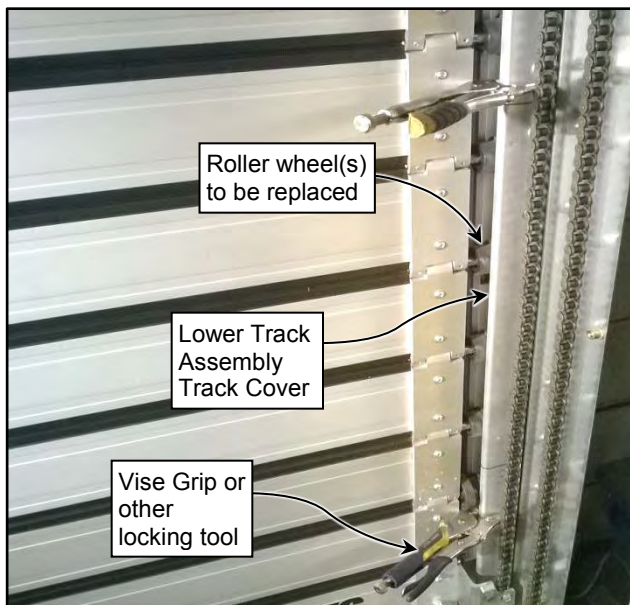

Figure 47
4. Position clamps along both edges of the door above and below the Lower Track Assembly track cover to be removed for roller wheel/guide wheel replacement to prevent unexpected door movement as shown. (See Figure 47)